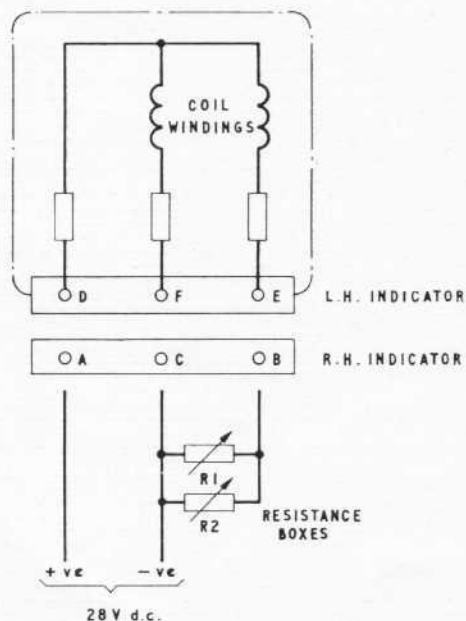

Fig. 2. Circuit and test circuit diagram
3. The combined circuit and test circuit diagram is shown in fig. 2. Connection to the indicator is made by means of 3 terminal screws, fitted with captive washers, at the rear of the indicator.
8. Set the resistance boxes to be used as R1 and R2 to 110 ohms and 40223 ohms respectively, then connect the indicator to the test circuit shown in fig. 2 for the left-hand indicator.